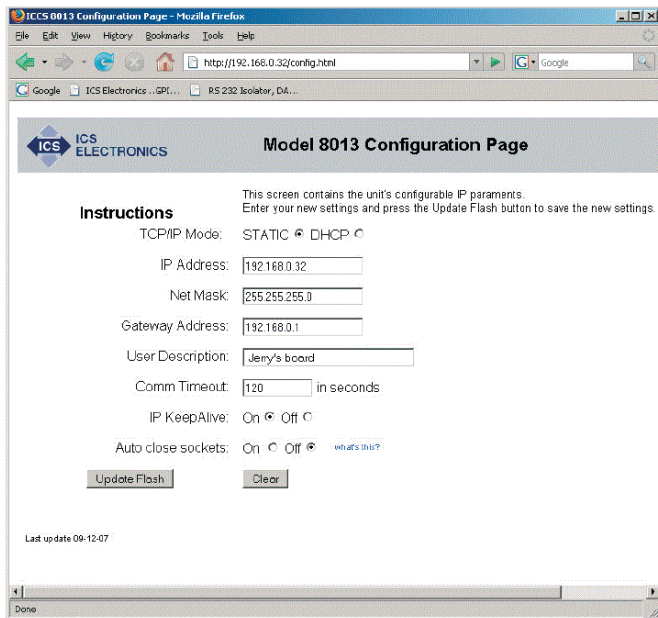

Figure 4-4 9006 Configuration Page
6. If you want to change any of the settings, press the 'Update Configuration' button. A Configuration Page similar to the one shown in Figure 4-4 should appear in your browser.